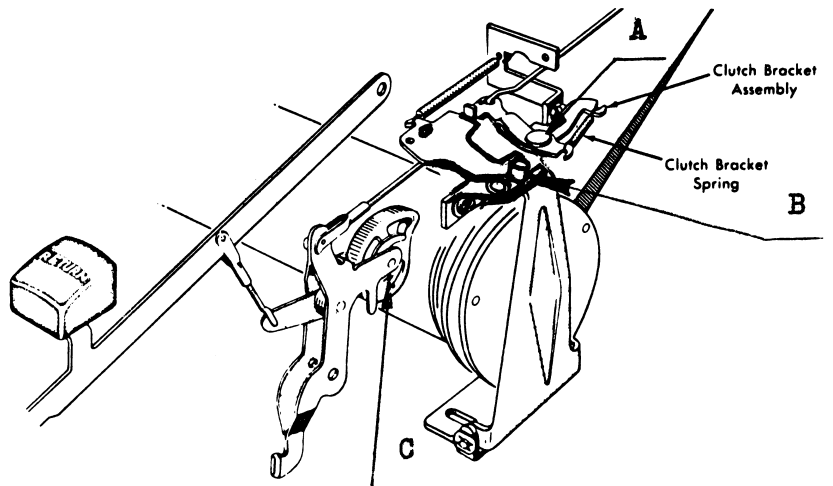
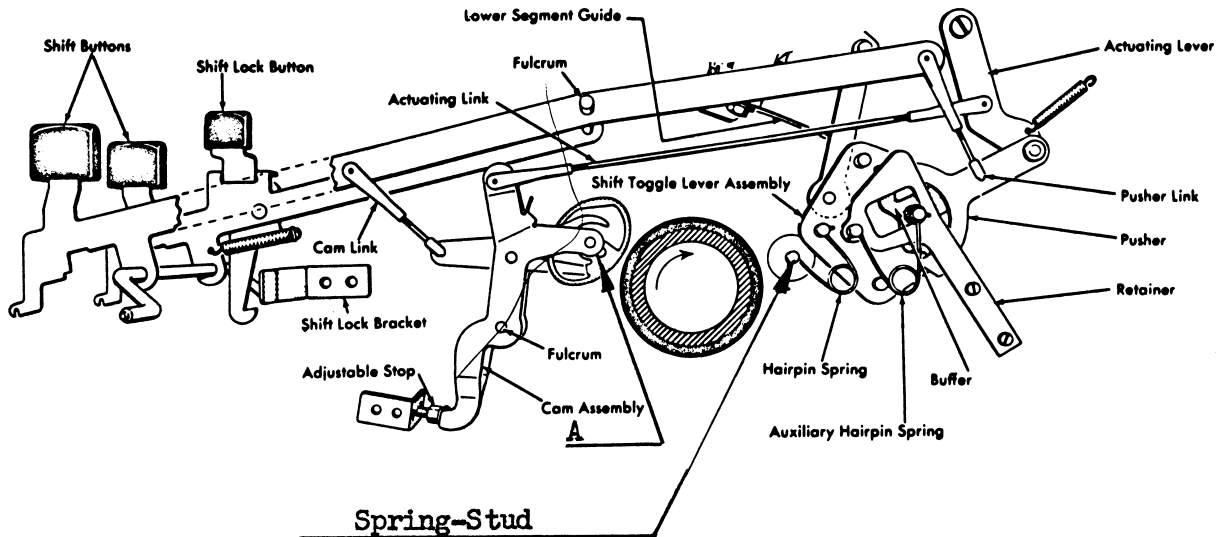

Fig. 2 CARRIAGE RETURN CLUTCH
Fig. 3 SHIFT MECHANISM
These above listed cam assemblies need to be lubricated between the hub and the cam as shown at Page 5 (Fig. 2, Point C) and Page 6 (Fig. 3, Point A). BE SURE THAT NO LUBRICANT IS ON THE POWER ROLL.
3. CARRIAGE RETURN CLUTCH Lubrication points are the points A and B in Figure 2.
6. SHIFT MECHANISM Lubricate both attachment points of the hair-spring (spring-stud and shift-toggle-lever-assy side) as shown in Figure 3, Page 6.